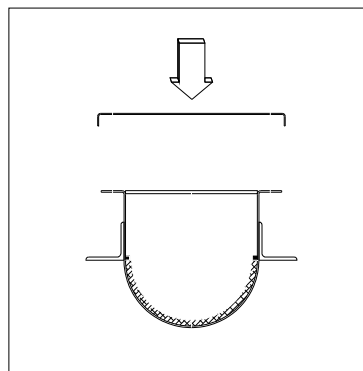

Figure 2.5.2g Replacing the Liner
8. Replace the lid to the trough (Figure 2.5.2g).